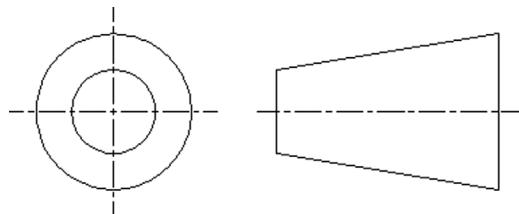

FIGURE 27.8 Third Angle view projection.
- **Projections:** These can be front, back, top, bottom, side, and isometric in nature. Be aware of how projected views are oriented from the parent view and where they are located. In the commonly used Third Angle projection, a head-on view turns to the right and faces the parent view (relative to you, the observer). Fig. 27.8 demonstrates the convention used. There is also a First Angle projection, where the side view is the main one, not the front.